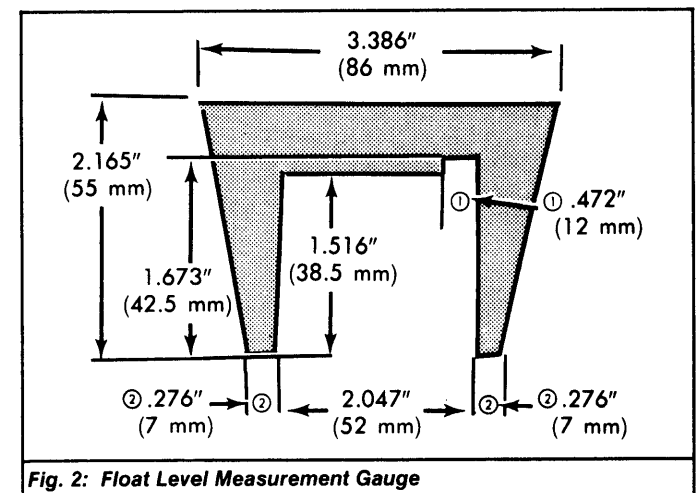

Fig. 2: Float Level Measurement Gauge
- 1) Fabricate float measurement gauge to dimensions shown. See Fig. 2. Position gauge over float allowing float weight to gently compress needle valve ball. Note position of float gauge and float.